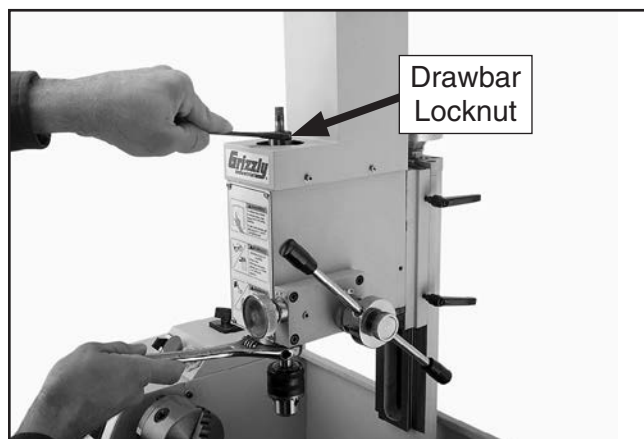

Figure 111. Tightening drawbar lock nut.
6. Tighten drawbar lock nut, as shown in **Figure 111**.
3. Loosen drawbar lock nut (see **Figure 111**) on previous page.